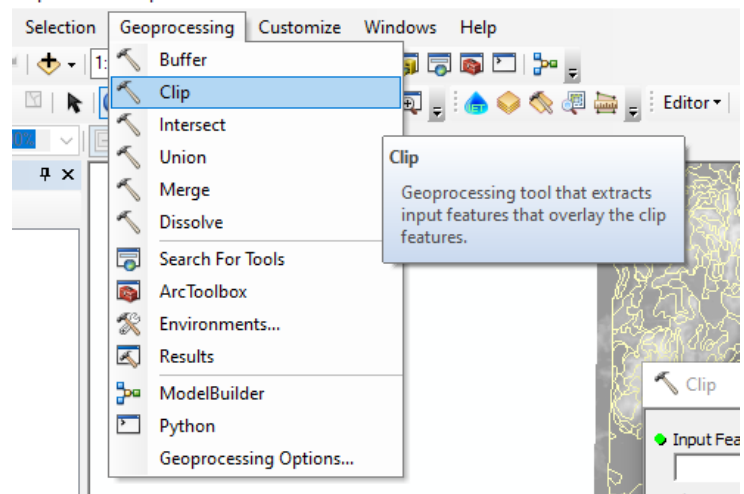

Figure 33. Clip tool
- To clip polygon shapefiles, select Geoprocessing on the top ribbon, select Clip (Figure 33).